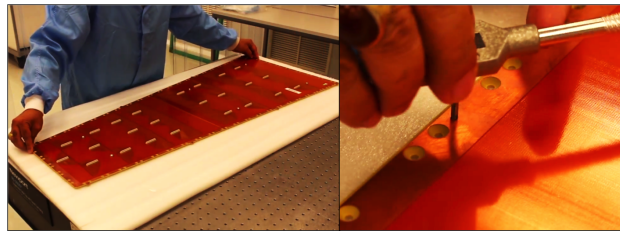

Figure 5: Clamping of the brass inserts.
Step 1: Flip the readout board upside down so that the Panasonic connectors face up (Fig. 5 left).
Step 2: Insert the 3 mm tap in the hole dedicated to the gas connector. Keep the tool vertical while slowly screwing it by hand to create the thread pattern in the material (Fig. 5 right).